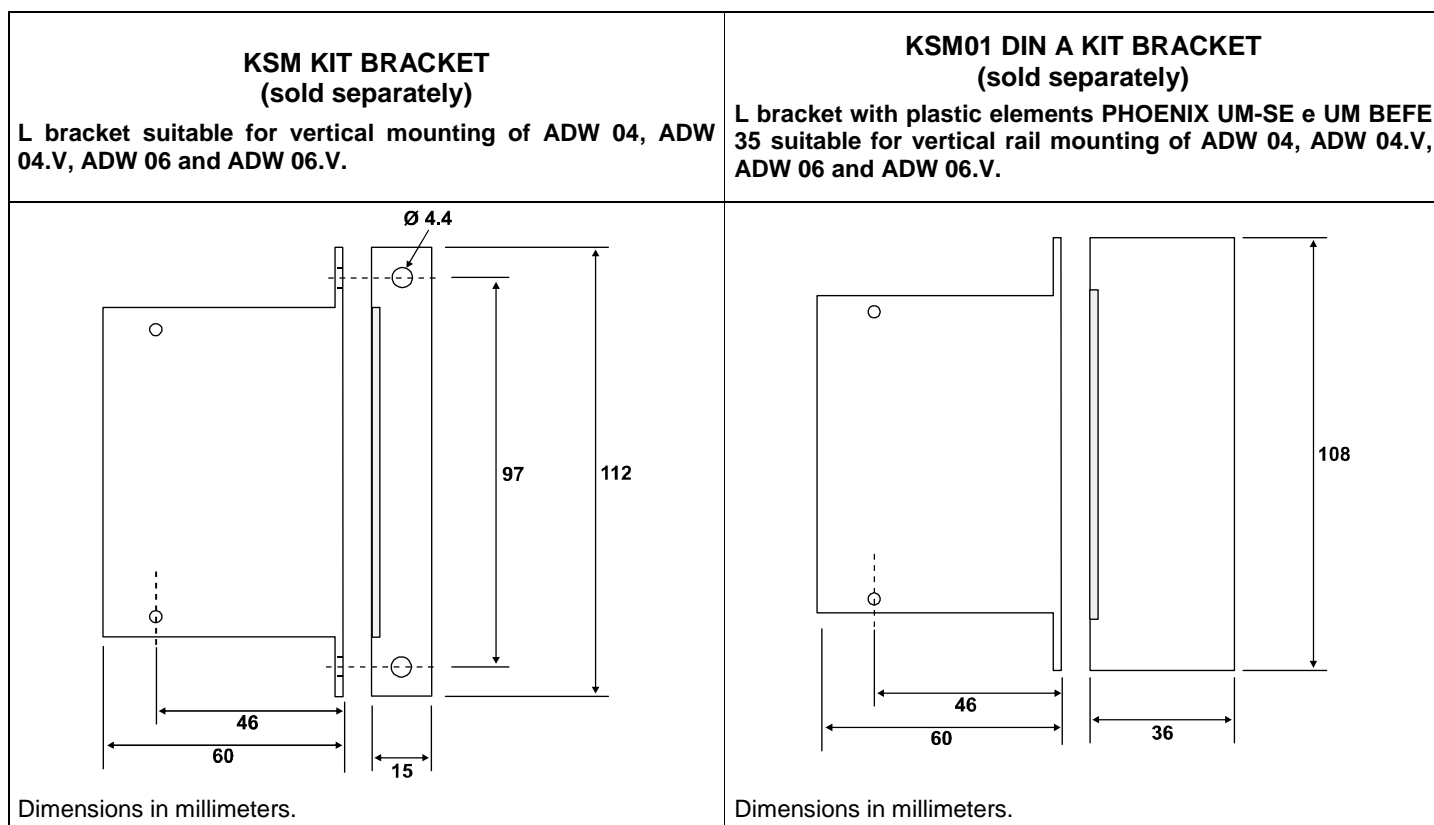

Figure 8
R.T.A. can provide specific brackets suitable for vertical mounting (see Figure 8).